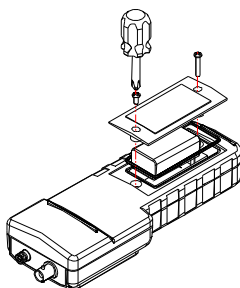

Figure 1: Battery compartment
1. Use a screw driver to remove the two screws and battery cover to expose the battery compartment. (Figure 1.)